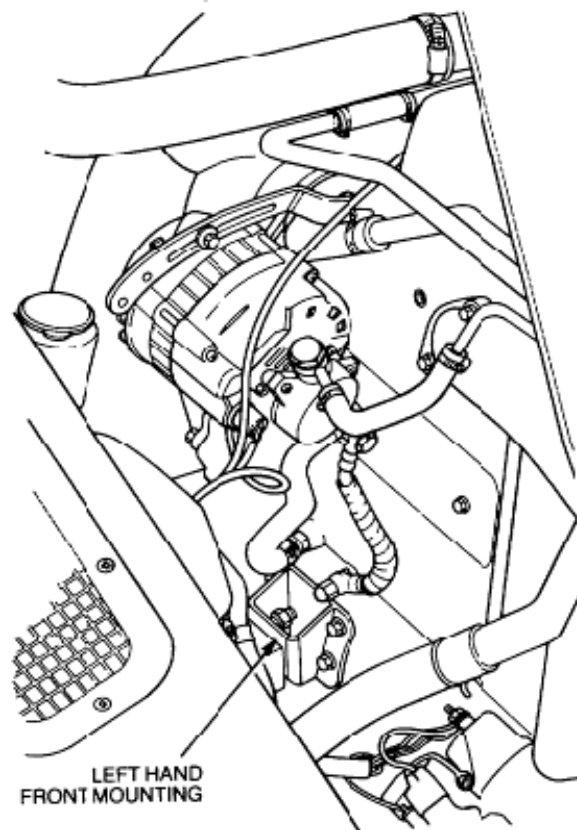

Figure 4 Left Engine Front Mounting
- c. Raise the engine enough to enable the mounting to be removed (Figure 4).